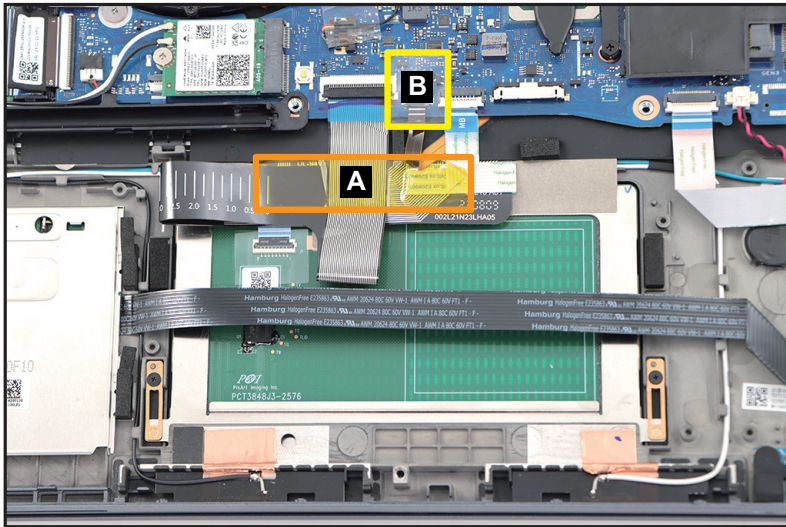

Figure 1-56. Touchpad Module Removal
1. Detach the kapton tape (A) and the mylar (B) securing the cables in place (Figure 1-56).